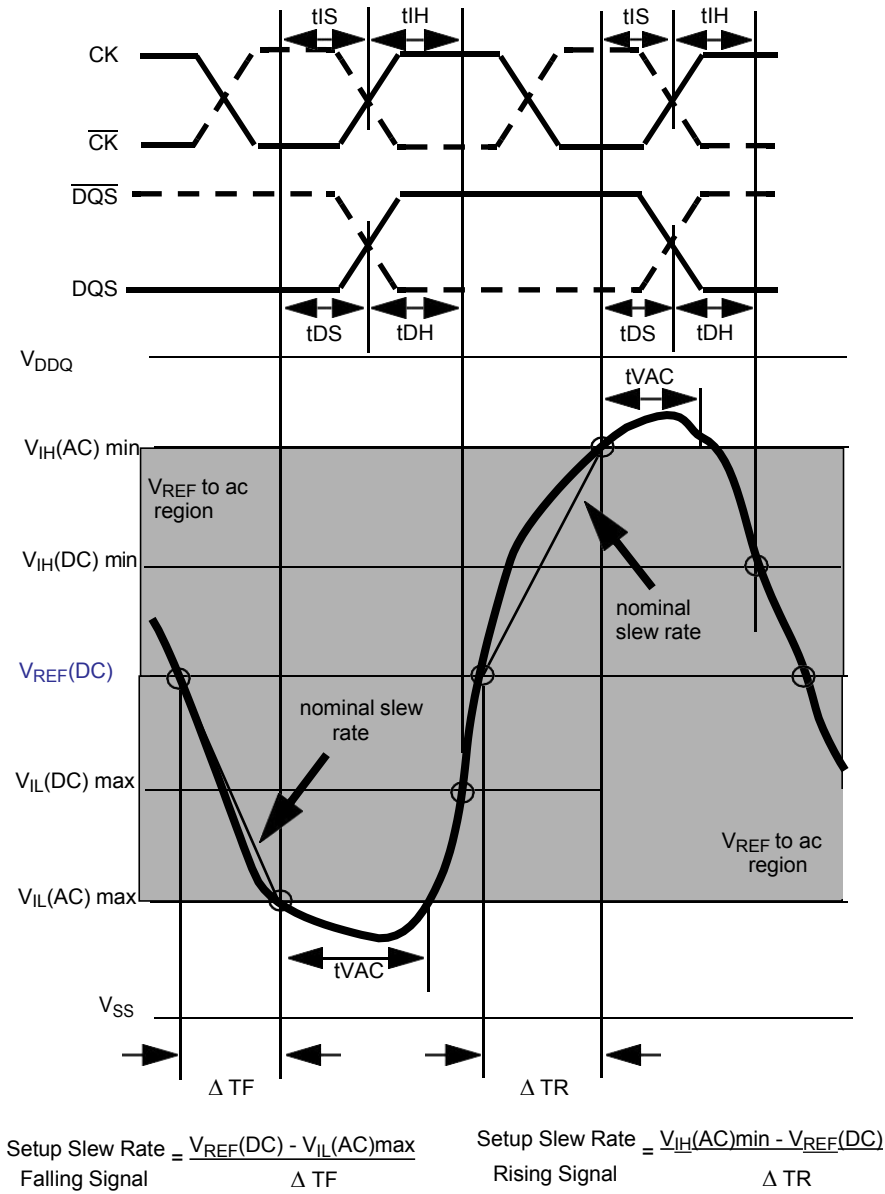
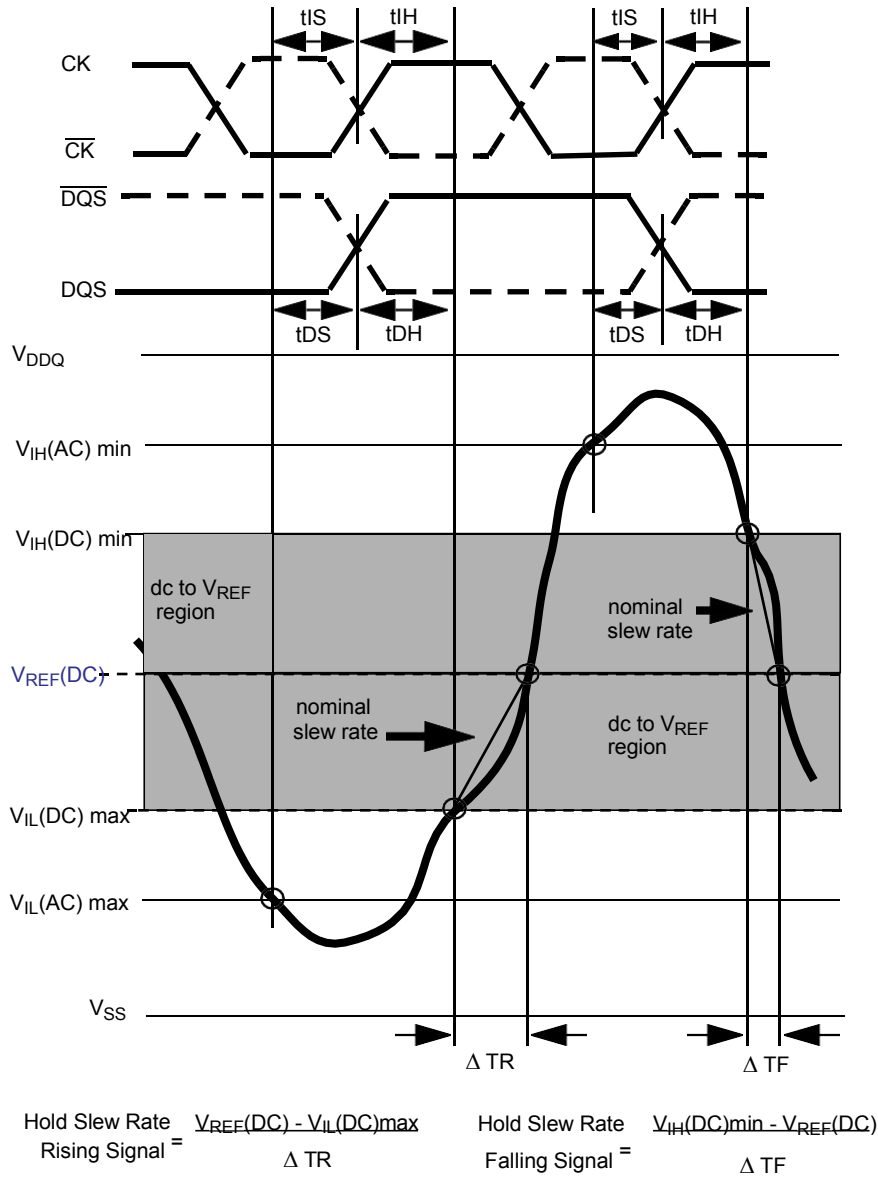
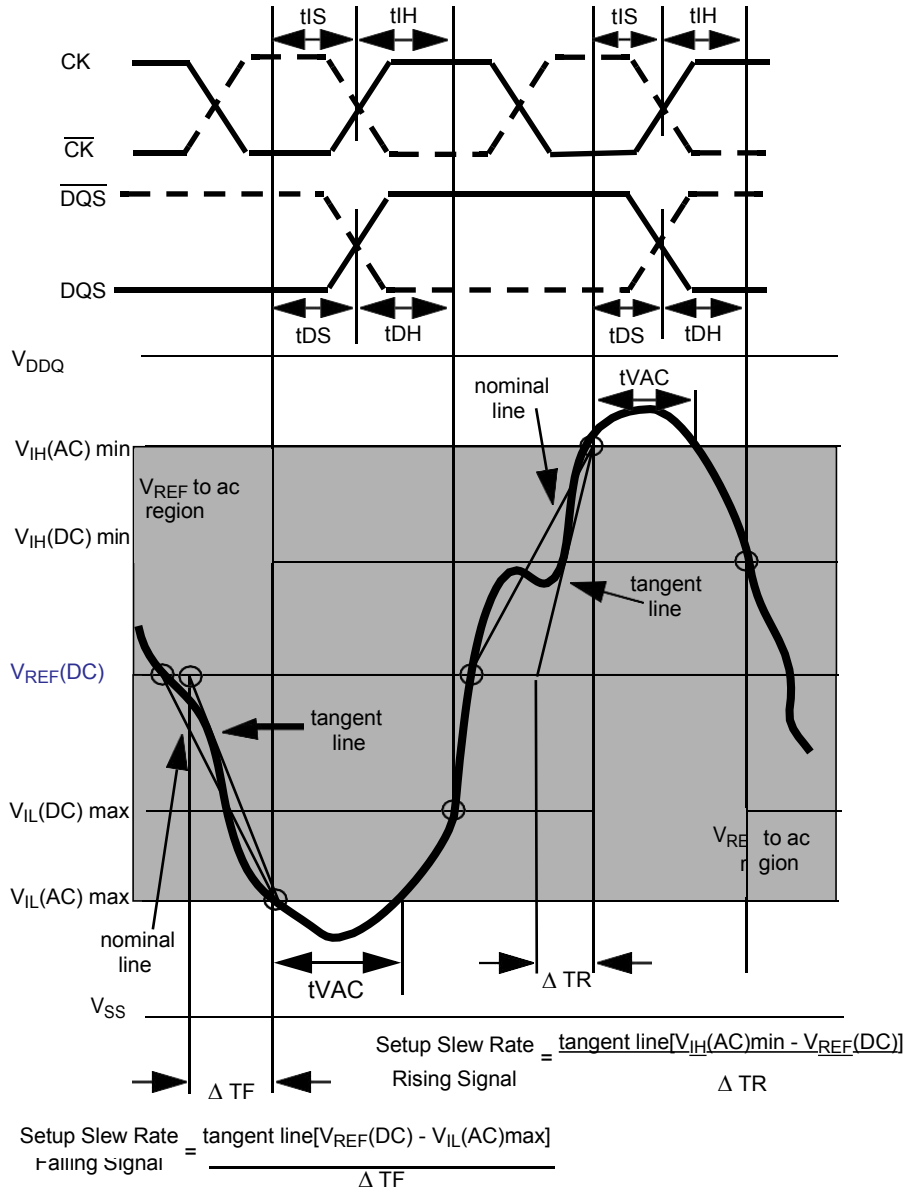
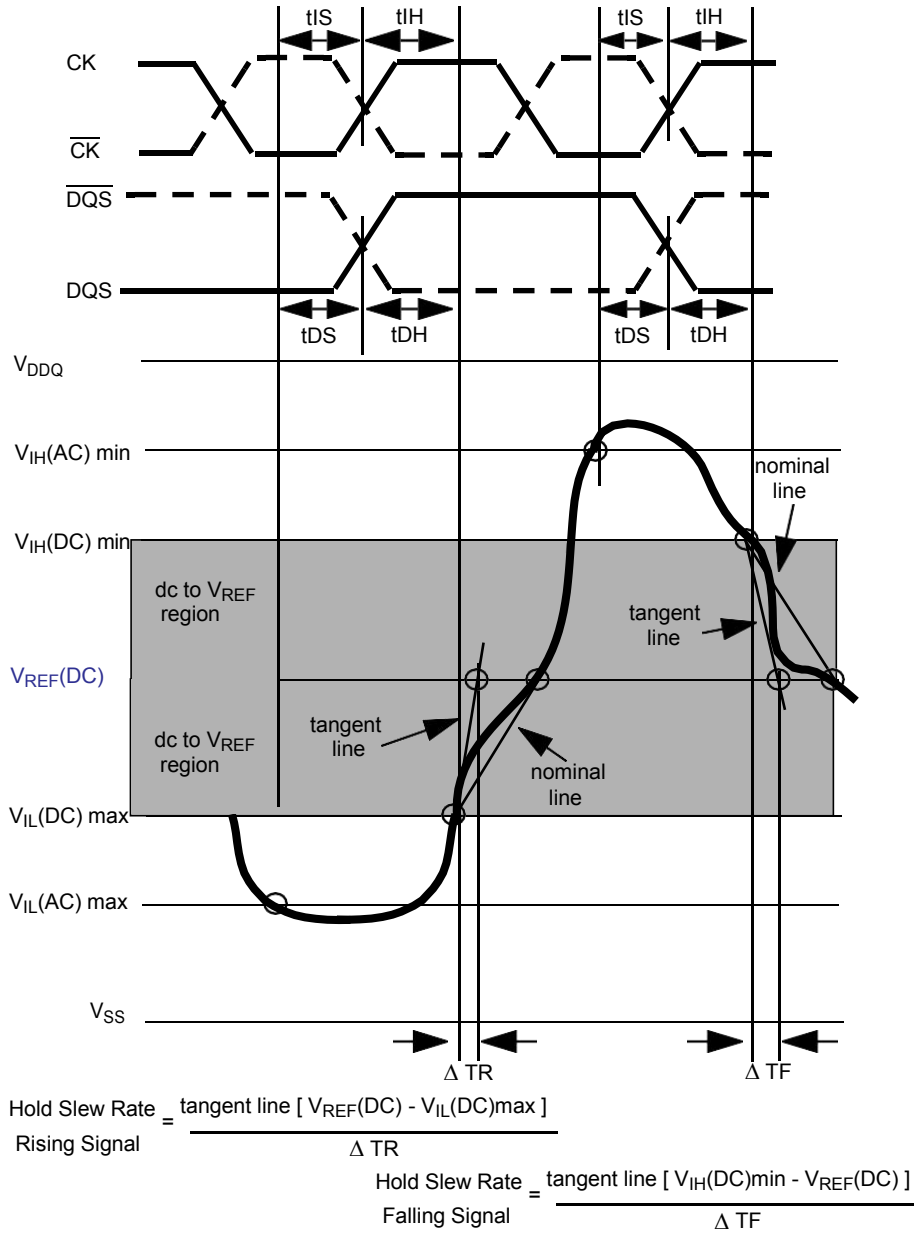

Figure 21. Illustration of nominal slew rate and t_{VAC} for setup time t_{DS} (for DQ with respect to strobe) and t_{IS} (for ADD/CMD with respect to clock).
Figure 22. Illustration of nominal slew rate for hold time t_{DH} (for DQ with respect to strobe) and t_{IH} (for ADD/CMD with respect to clock).
Figure 23. Illustration of tangent line for setup time t_{DS} (for DQ with respect to strobe) and t_{IS} (for ADD/CMD with respect to clock)
Figure 24. Illustration of tangent line for hold time t_{DH} (for DQ with respect to strobe) and t_{IH} (for ADD/CMD with respect to clock)
Example: tIS (total setup time) = tIS(base) + ΔtIS Setup (tIS) nominal slew rate for a rising signal is defined as the slew rate between the last crossing of V_{REF}(DC) and the first crossing of V_{IH}(AC)min. Setup (tIS) nominal slew rate for a falling signal is defined as the slew rate between the last crossing of V_{REF}(DC) and the first crossing of V_{IL}(AC)max. If the actual signal is always earlier than the nominal slew rate line between shaded 'V_{REF}(DC) to ac region', use nominal slew rate for derating value (see Figure 21). If the actual signal is later than the nominal slew rate line anywhere between shaded 'V_{REF}(DC) to ac region', the slew rate of a tangent line to the actual signal from the ac level to dc level is used for derating value (see Figure 23). Hold (tIH) nominal slew rate for a rising signal is defined as the slew rate between the last crossing of V_{IL}(DC)max and the first crossing of V_{REF}(DC). Hold (tIH) nominal slew rate for a falling signal is defined as the slew rate between the last crossing of V_{IH}(DC)min and the first crossing of V_{REF}(DC). If the actual signal is always later than the nominal slew rate line between shaded 'dc to V_{REF}(DC) region', use nominal slew rate for derating value (see Figure 22). If the actual signal is earlier than the nominal slew rate line anywhere between shaded 'dc to V_{REF}(DC) region', the slew rate of a tangent line to the actual signal from the dc level to V_{REF}(DC) level is used for derating value (see Figure 24).